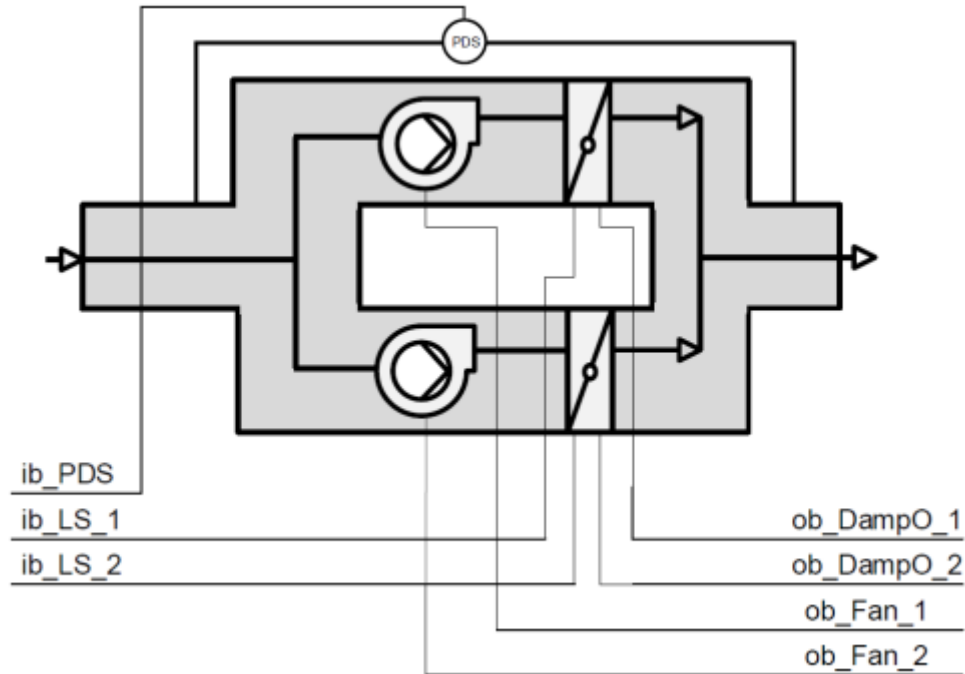

Figure 5 – Connection diagram for mode 3
- 4- mode_Damp=3. Two air dampers are used (one for each fan), each with one limit switch. The signals from the limit switches are individual (ib_LS_1 and ib_LS_2). The commands for damper opening are individual (ob_DampO_1 and ob_DampO_2). The commands for fan startup are also individual (ob_Fan_1 and ob_Fan_2). The connection diagram is shown in Figure 5.